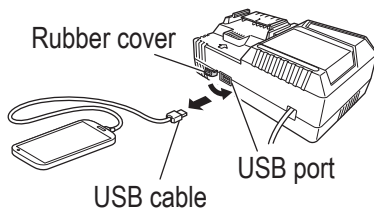

Fig. 20
- Unplug the power cord from the electrical outlet. (Fig. 20)